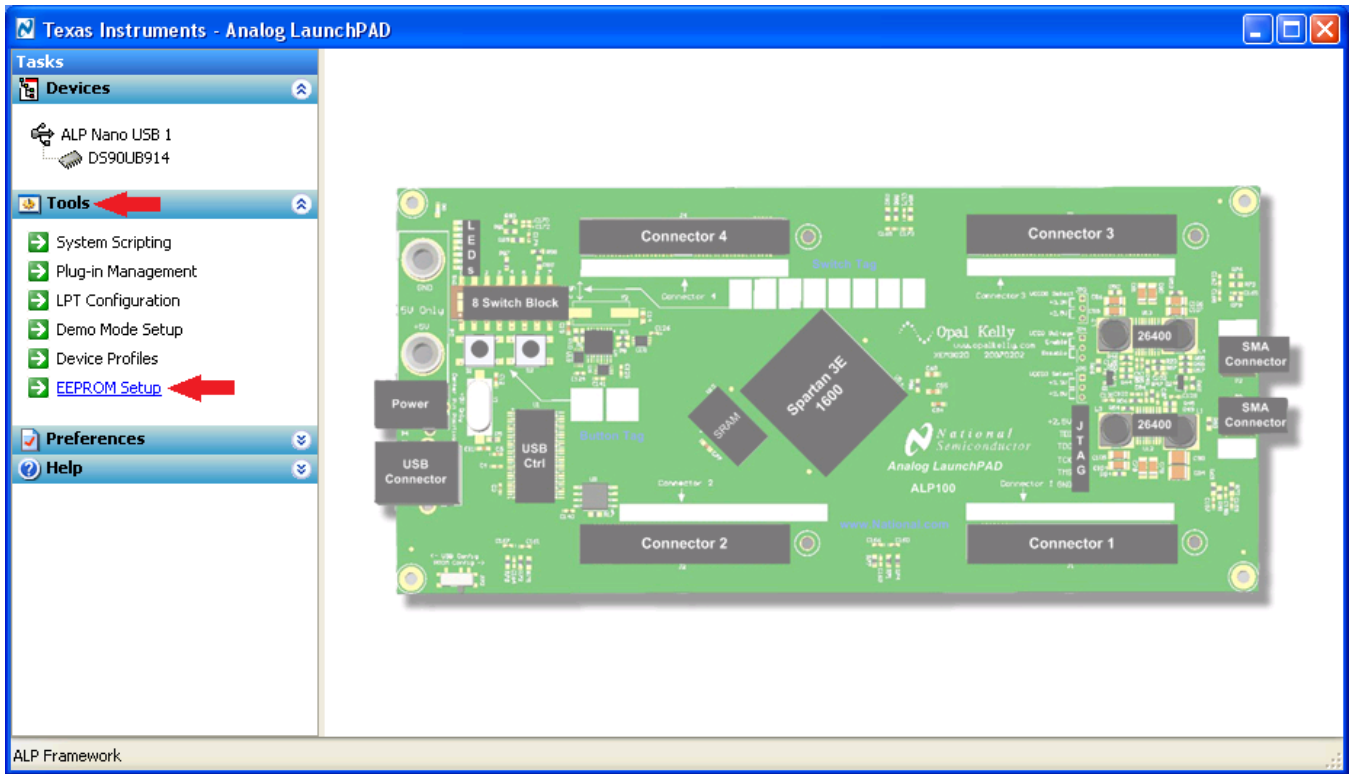

Figure 3-3. Tools Tab
2. To communicate with a particular device, go to **Tools > EEPROM Setup** (Figure 3-3) .